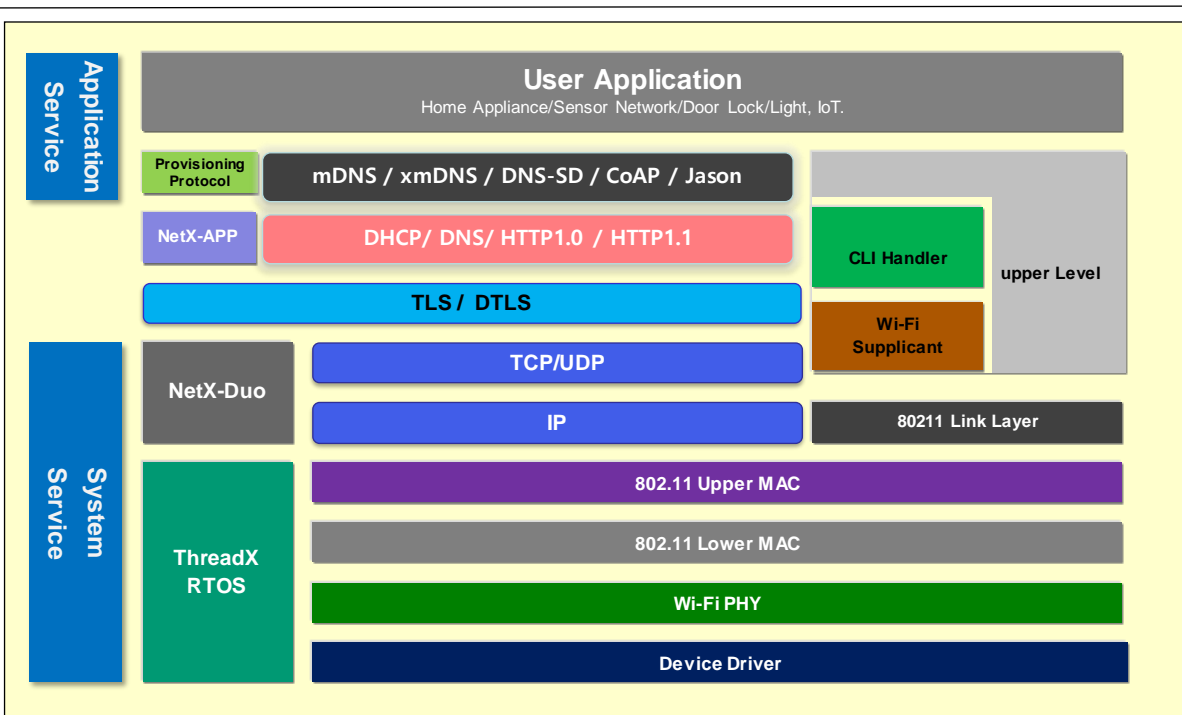

Figure 3: Software Block Diagram
Figure 3 shows the DA16200 software (SW) block diagram.